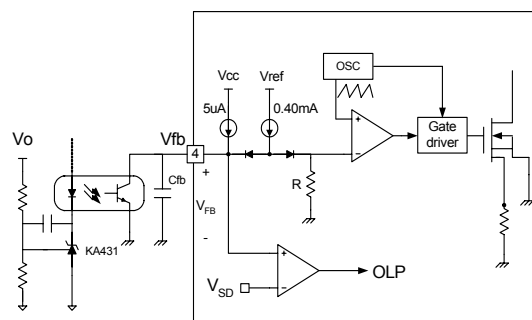

Figure 6. PWM and Feedback Circuit
**2. Feedback Control :** The FSDM311 is the voltage mode controlled device as shown in Figure 6. Usually, an optocoupler and KA431 type voltage reference are used to implement the feedback network. The feedback voltage is compared with an internally generated sawtooth waveform. This directly controls the duty cycle. When the KA431 reference pin voltage exceeds the internal reference voltage of 2.5V, the optocoupler LED current increases, the feedback voltage Vfb is pulled down and it reduces the duty cycle. This will happen when the input voltage increases or the output load decreases.